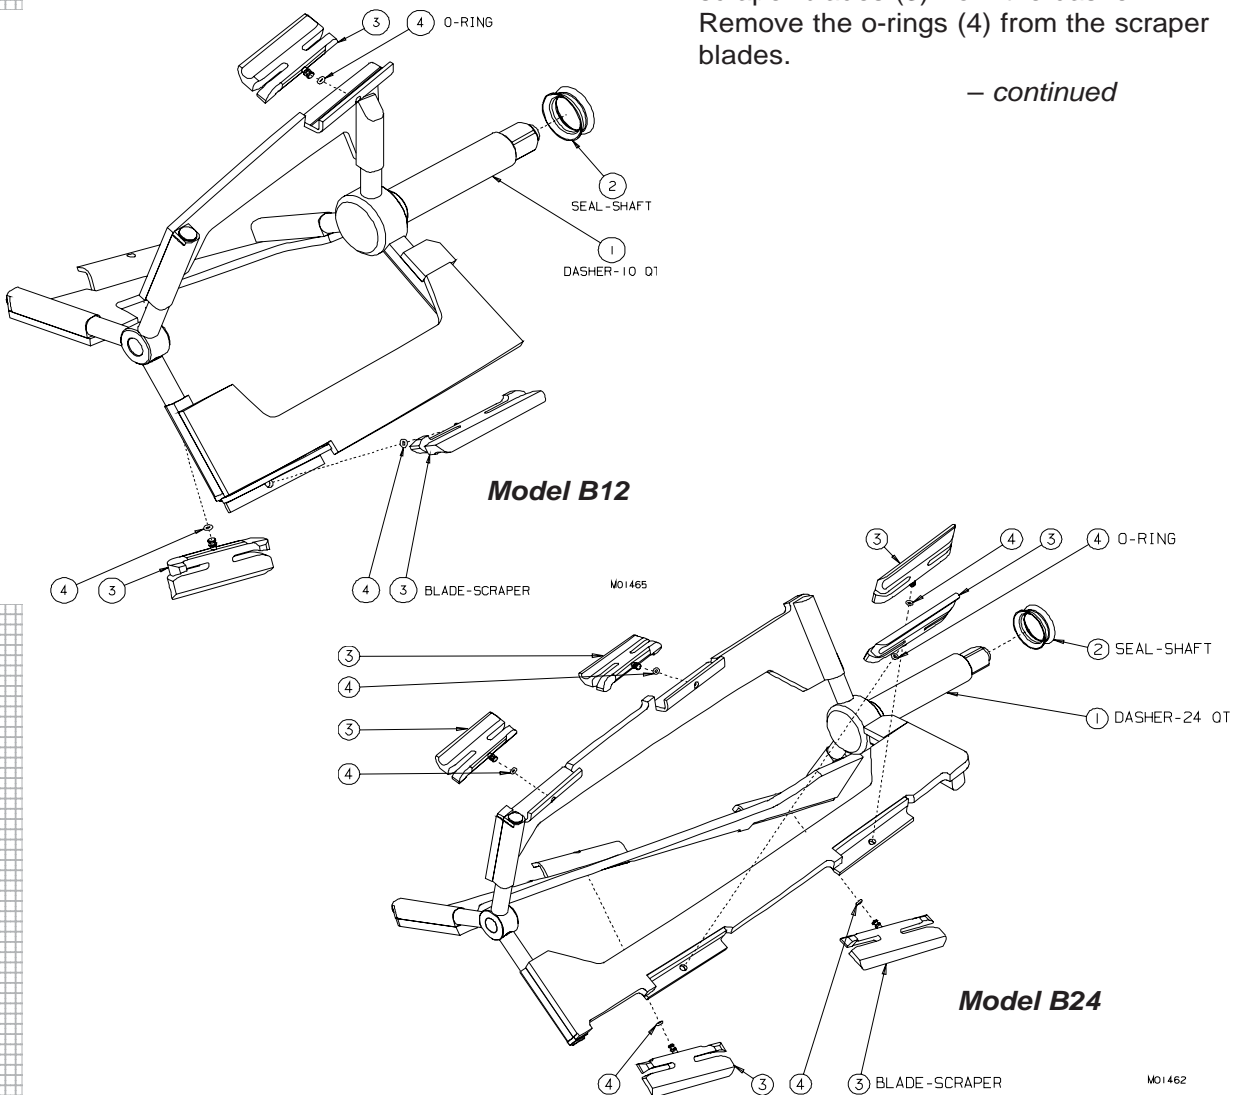
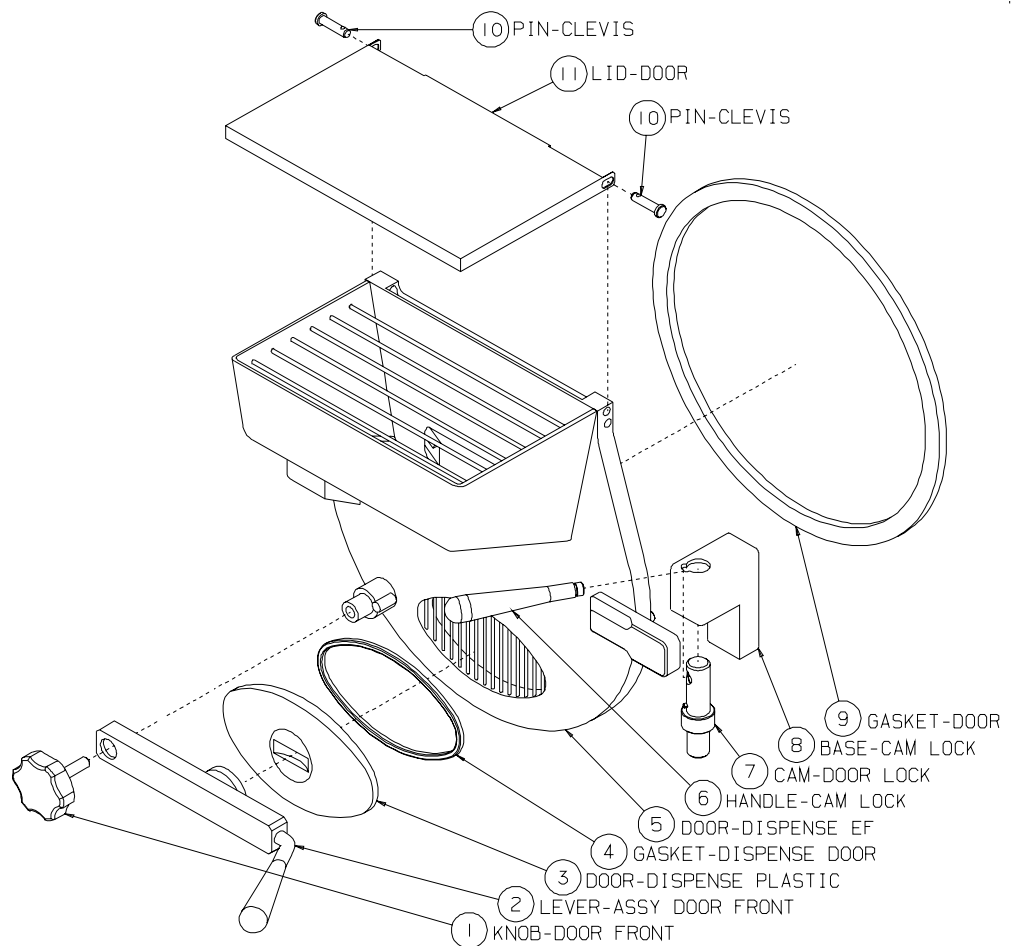

Figure 7-2 Dasher Assembly
Figure 7-3 Door Assembly
2. Open the cam door lock (6-7, figure 7-3) and remove the dasher (figure 7-2) from the freezer by pulling straight out. Take the dasher to a three compartment sink.
3. Remove the shaft seal (2) and scraper blades (3) from the dasher. Remove the o-rings (4) from the scraper blades.
4. Lift the door (5, figure 7-3) off the hinge and take to sink.
5. Unscrew the door knob (1) and remove the lever (2) and plastic dispense door (3). Remove the gasket (4) from the plastic dispense door.
6. Remove the lid (11), clevis pins (10) and door gasket (9) from the door assembly.
7. Remove cam lock (7) and handle (6) by unscrewing the handle and sliding cam down through the cam base.